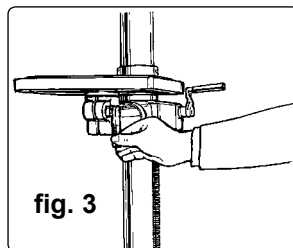

fig. 3
- 5.1.6. Install the table and table pivoted clamp bolt to the table arm(fig.3). PDM100B only - table bolts directly to table bracket, there is no arm.